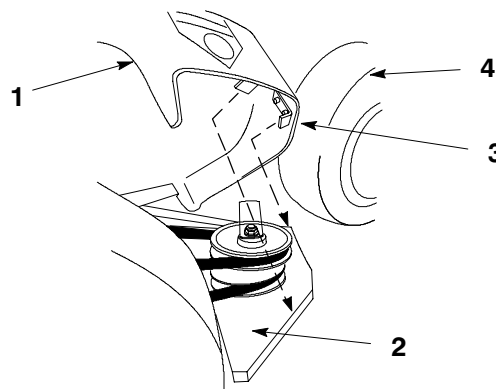

Figure 21
2. Adjust blower belt cover so that "L" brackets rest on pulley plate. Tighten blower belt cover mounting screws (Fig. 21).